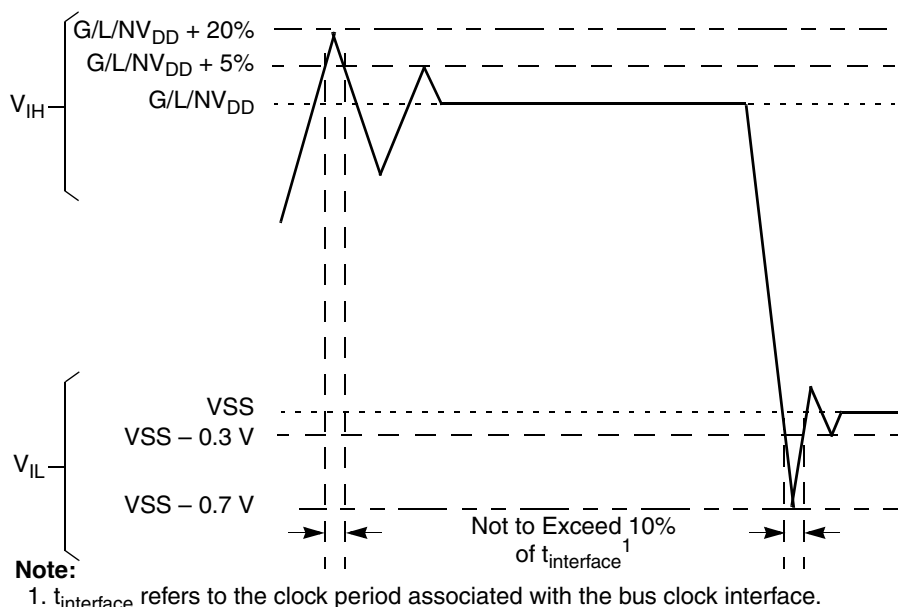

Figure 2. Overshoot/Undershoot Voltage for GVDD/NVDD/LVDD
- (M, L, O) V_{IN} and MV_{REF} may overshoot/undershoot to a voltage and for a maximum duration as shown in Figure 2